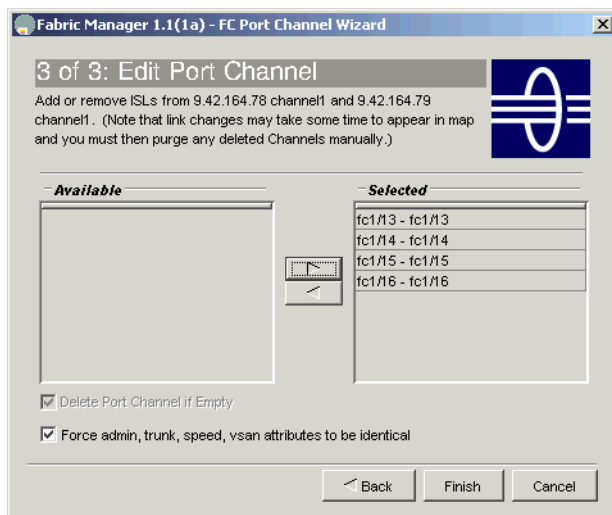

Figure 2-87 Adding ports to PortChannel 2
2. Add the remaining two ports to the window, as shown in Figure 2-87. Click **Finish**, when finished.